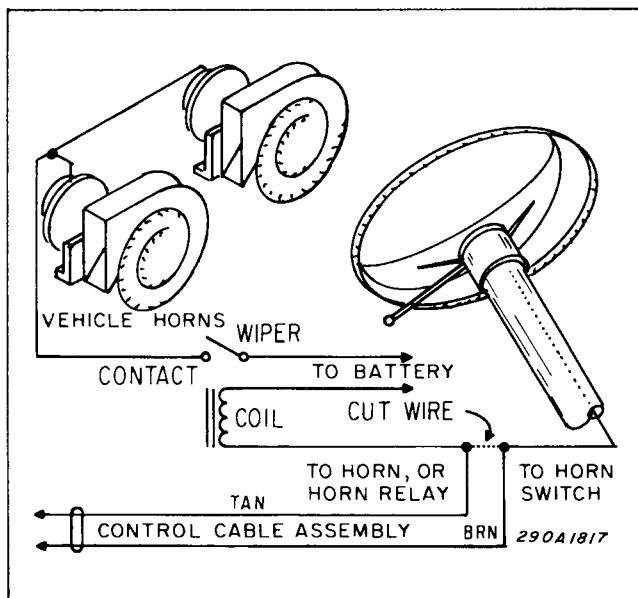

Figure 3. Horn Ring Connections.
d. Obtain a SPST relay of sufficient contact current capacity to activate the vehicle horn. Refer to figure 3 while performing the following steps.